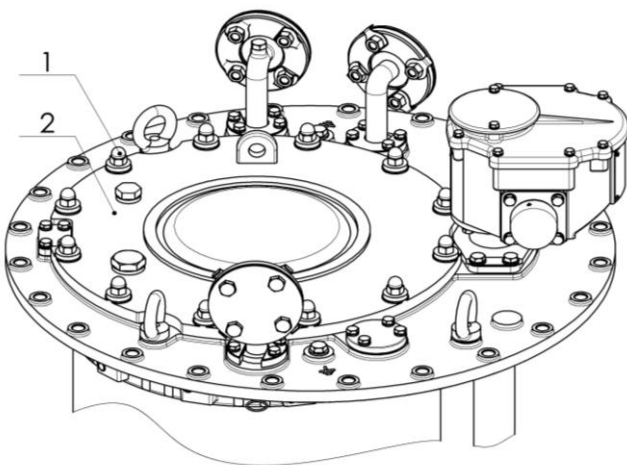

Fig. 1
- c) Unscrew the nuts (Pos.1); afterwards, remove the cover of the tap changer (Pos.2, Fig.1).